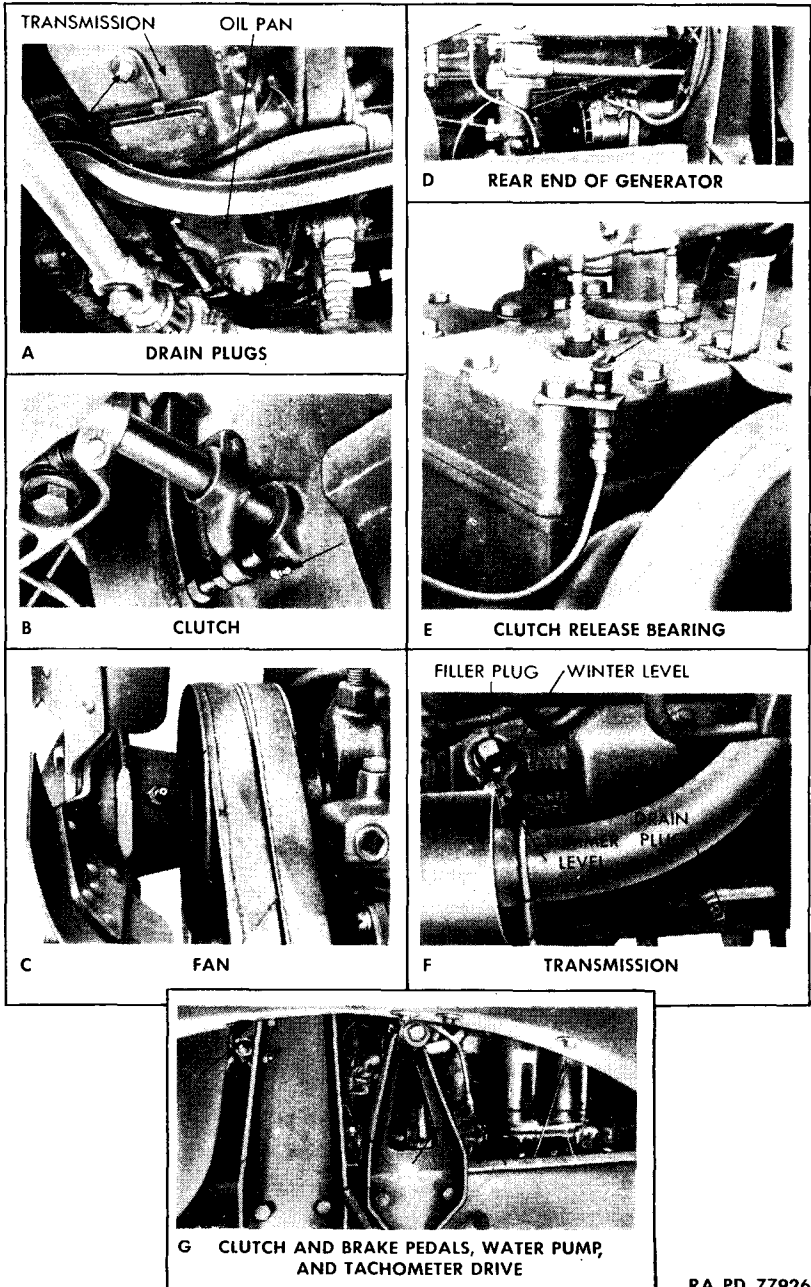
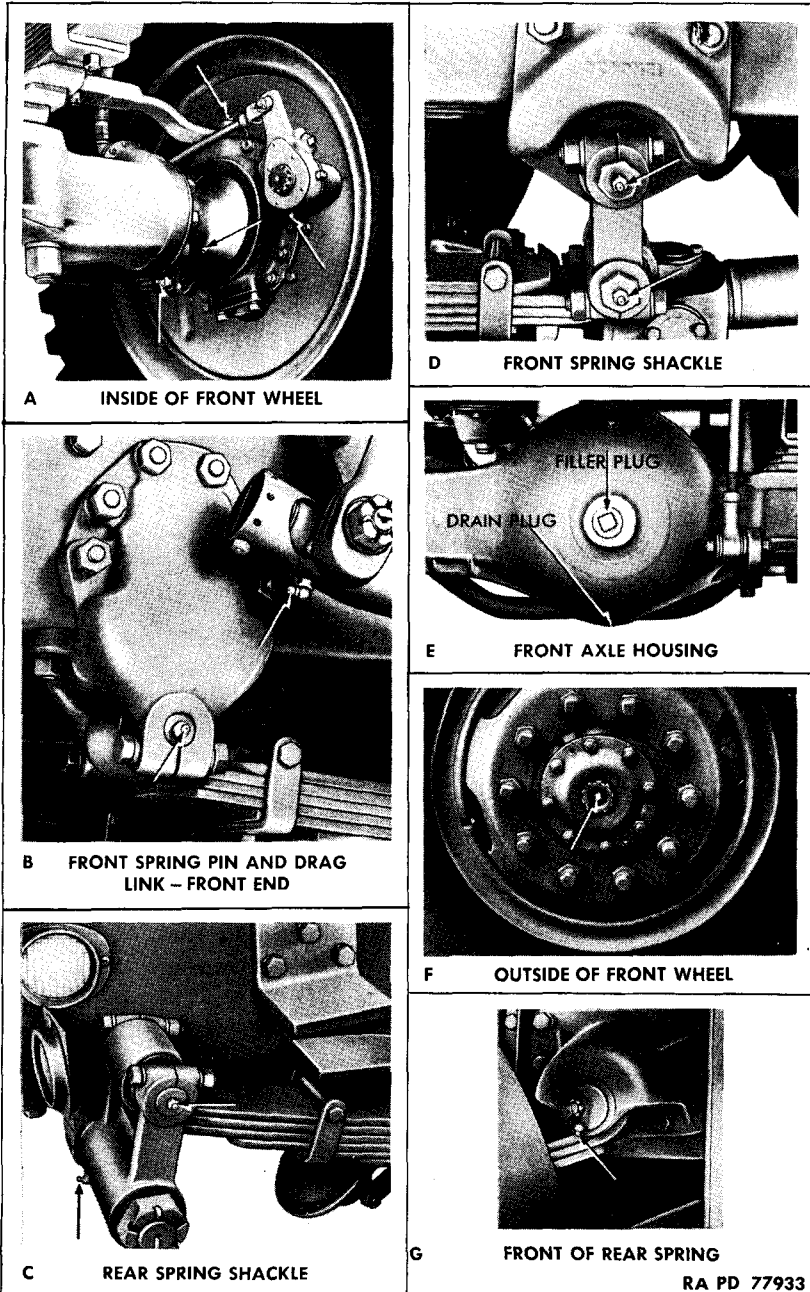
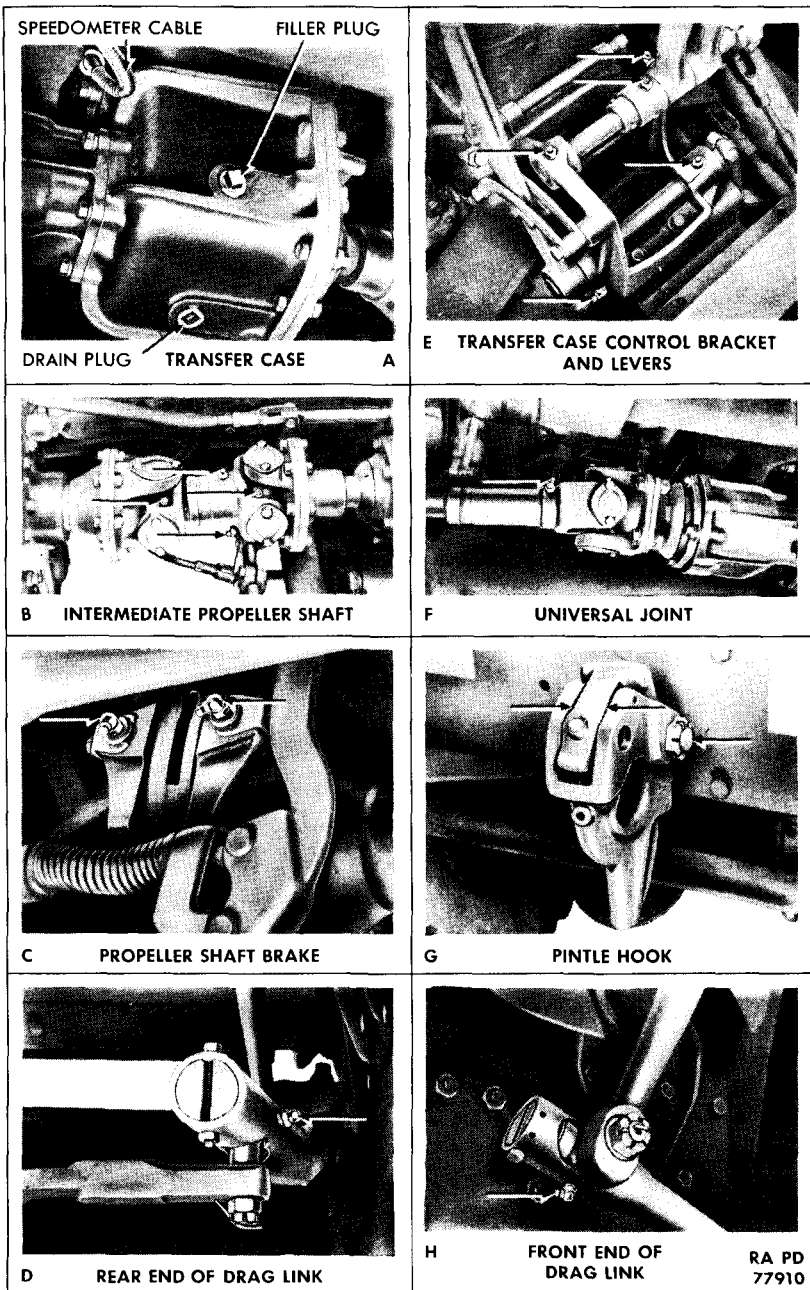

Figure 7 — Engine, Clutch, and Transmission — Lubrication Points
Figure 8 — Wheels, Axles, and Springs — Lubrication Points
Figure 9 – Miscellaneous Lubrication Points
- C fig. 8. Spring Shackles CG 1
- G fig. 7. Starter 4 to 8 drops (Some models) OE
- OE Clutch Release BearingE fig. 7
- WB Clutch Pilot Bearing (New 11)B fig. 7
- CG Transfer Case Shift and Hand Brake Control Shaft BearingsE fig. 9
- GO Transmission Fill and Level Chest level (Note 7)A-F fig. 7
- CG Speedometer CableA fig. 9
- CG Hand Brake Transfer Lever Remove hose and coat Spring fig. 9.A fig. 9
(7) **GEAR CASES (A and F, fig. 7; E, fig. 8; A, fig. 9).** Weekly, check level with truck on level ground and, if necessary, add lubricant to within 1/2 inch of plug level when cold, or to plug level when hot. Drain and refill at intervals indicated on guide. Drain only after operation. Keep housing vents clean. Transmission has "SUMMER" and "WINTER" level markings at filler plug.
(8) **UNIVERSAL JOINTS (FRONT WHEELS) (A, fig. 8).** With truck on level ground, remove plug on under side of joint; also remove plug in wheel hub and install fitting. Fill through fitting to level of plug hole. Remove fitting and reinstall plug.
(9) **UNIVERSAL AND SLIP JOINTS (B and F, fig. 9).** Apply **GREASE**, general purpose, No. 1 above +32°F. and No. 0 below +32°F. to universal joint until it overflows at relief valve, and to slip joint until lubricant is forced from vent at universal joint end of spline.
(14) **OILCAN POINTS (G, fig. 9).** Every 1,000 miles, lubricate throttle and spark control rod ends, clevises, hinges, latches, air compressor rocker arm shaft, pintle hook, and hand brake linkage with OIL, engine, SAE 30 above +32°F. or SAE 10 +32°F. to 0°F. Below 0°F., use OIL, lubricating, preservative, special.
e. Localized Views. The localized views of lubrication points (figs. 7, 8, and 9) supplement the instructions on the Guide and in the notes.